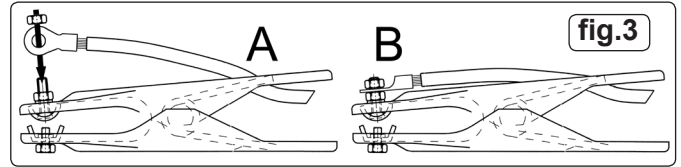

fig.3
- 3.4 ASSEMBLING THE EARTH CLAMP:** (Refer to fig.3) Feed the eyelet on the end of the earth lead through the hole in the clamp arm as shown in fig.3A.